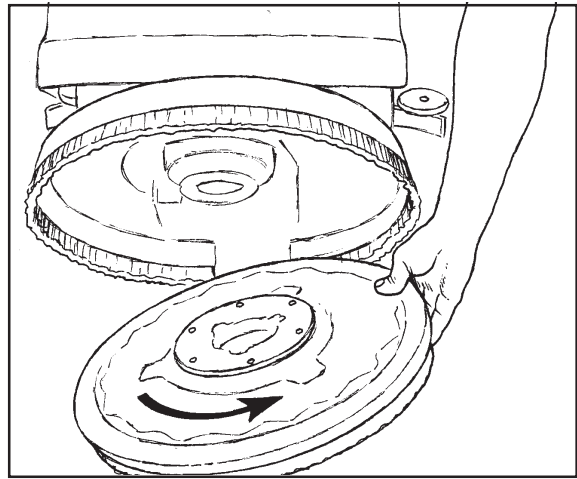

Figure 21
4. To remove brush, rotate brush in the same direction to scrub rotation with a quick snapping action until brush releases (See Figure 21).